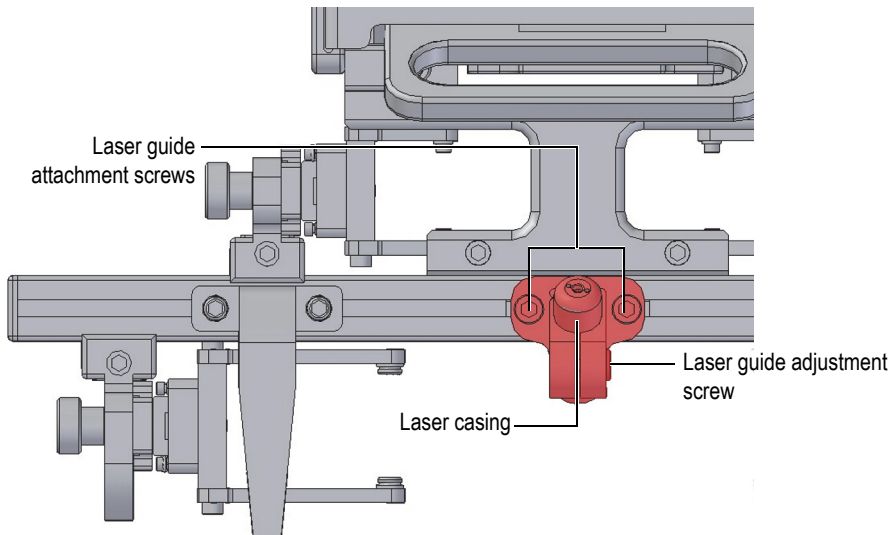

Figure 2-7 WeldROVER—laser guide position adjustment
1. Loosen the laser guide attachment screws (see Figure 2-7 on page 30).
2. Fine-tune the adjustment by manually rotating the laser casing in the holder (see Figure 2-7 on page 30).